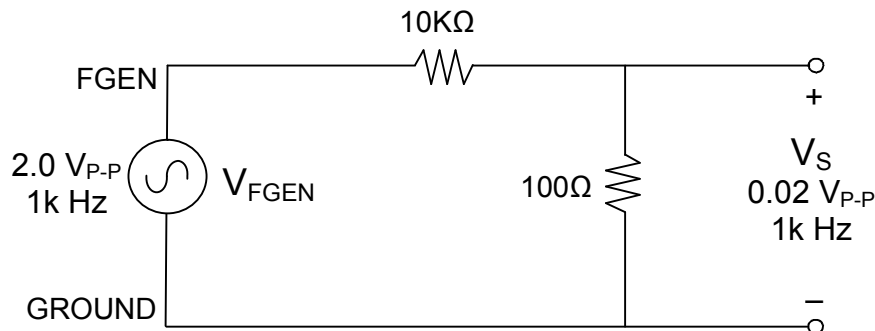

Figure 6.3: Voltage divider network to generate  $V_S$
3. In order to make the input signal,  $V_s$ , small enough to prevent distortion of the amplifier output, use the voltage divider circuit shown in Figure 6.3, where  $V_s$  is the voltage across
the  $100\Omega$  resistor. The voltage divider circuit shown in the Figure 6.3 divides input voltage from FGGEN by 100:1. Thus, to get  $V_S = 0.02V_{P-P}$ , set FGGEN to provide  $2.0V_{P-P}$  as input to the voltage divider. **You may find, it is not possible to see the correct amplitude of  $V_S$  on the oscilloscope**, but if you are applying  $2.0V_{P-P}$ , 1kHz, at the input of the voltage divider shown in Figure 6.3, you can be assured that  $V_S = 0.02V_{P-P}$ , 1kHz.